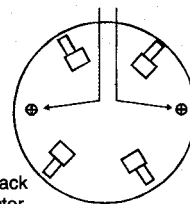

Fig. 3 Two screws on back of DA-338 smoke detector
The normal condition for the relay is "normally open" (NO). To remove top cover remove two screws on back of DA-338 smoke detector as shown in Figure 3